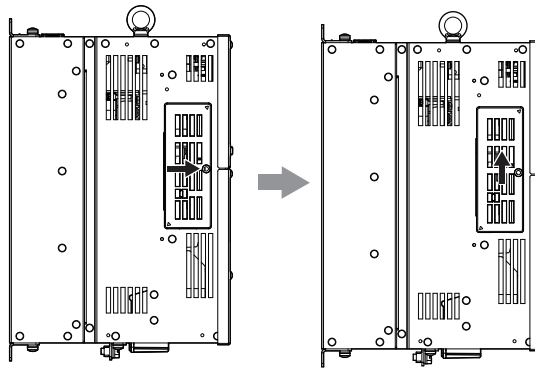

Figure 4.34 Sliding the CN19 Connector Cover
2. Slide the CN19 connector cover from the drive as shown in Figure 4.34.